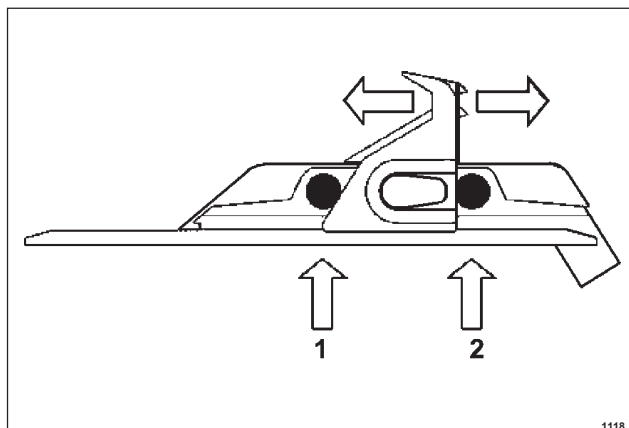

Fig. 3.0-2
N.B.: The turntable jaws can be positioned in two different way. Push its lever on the left side of each jaw and shift at the same each one (Fig.3.0-2). Turntable capacity can be changed before pedal control.